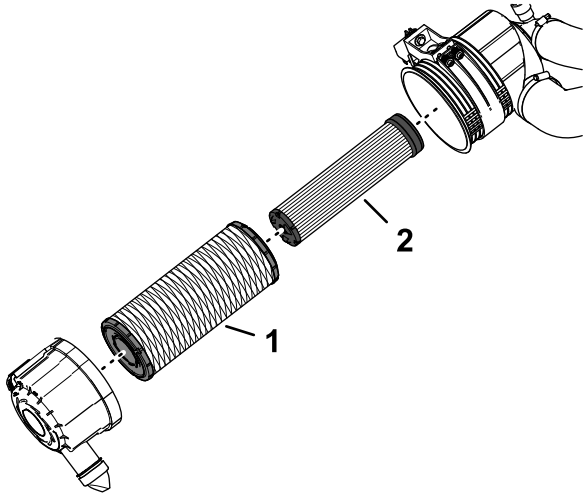

Figure 121
1. Check the safety-filter element (Figure 121). If it is dirty, replace it.
**Important:** Never attempt to clean the safety filter (Figure 121). Replace the safety filter with a new one after every 3 primary filter services.